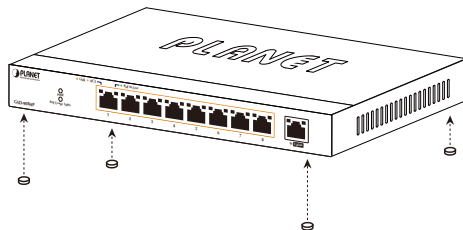

Figure 3-1: Place the PoE Ethernet Switch on the Desktop
Step 1: Attach the rubber feet to the recessed areas on the bottom of the PoE Ethernet Switch, as shown in Figure 3-1.